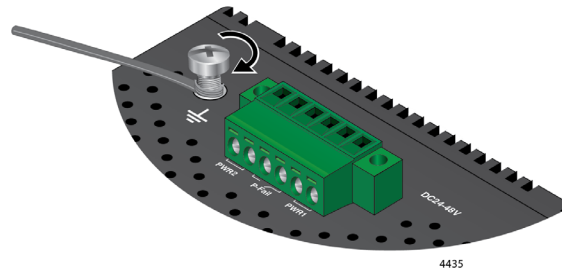

Figure 27. Wrap Grounding Wire Around Ground Screw
3. Wrap the grounding wire clockwise around the base of the grounding screw beneath the star-lock washer provided. Refer to Figure 27.